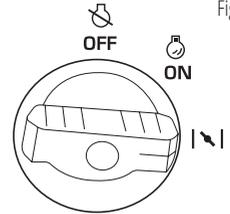

Fig. 2
4. Set the 3-in-1 switch to “Air choke” (Fig. 2).
6. Set the 3-in-1 switch to “ON” (Fig. 2).